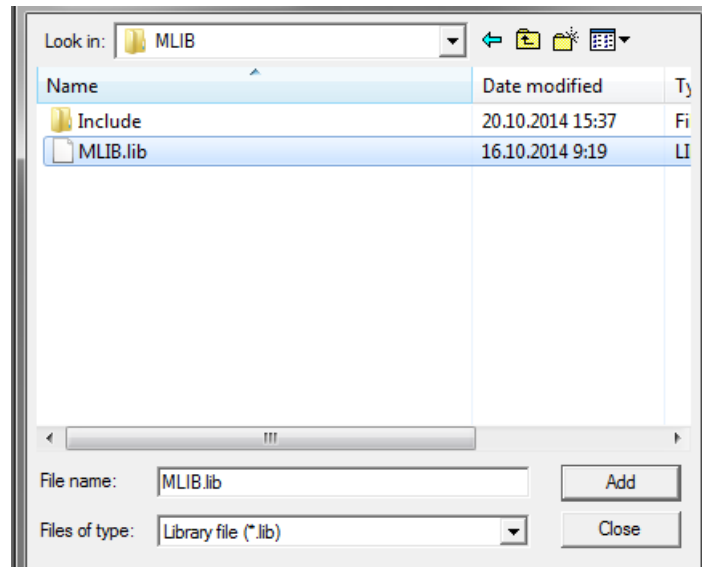

Figure 1-23. Adding .lib files dialog
5. Navigate to the parent folder C:\NXP\RTCESL\CM4F_RTCESL_4.3_KEIL\MLIB, and select the *mllib.lib* file. If the file does not appear, set the Files of type filter to Library file. Click Add. See Figure 1-23.